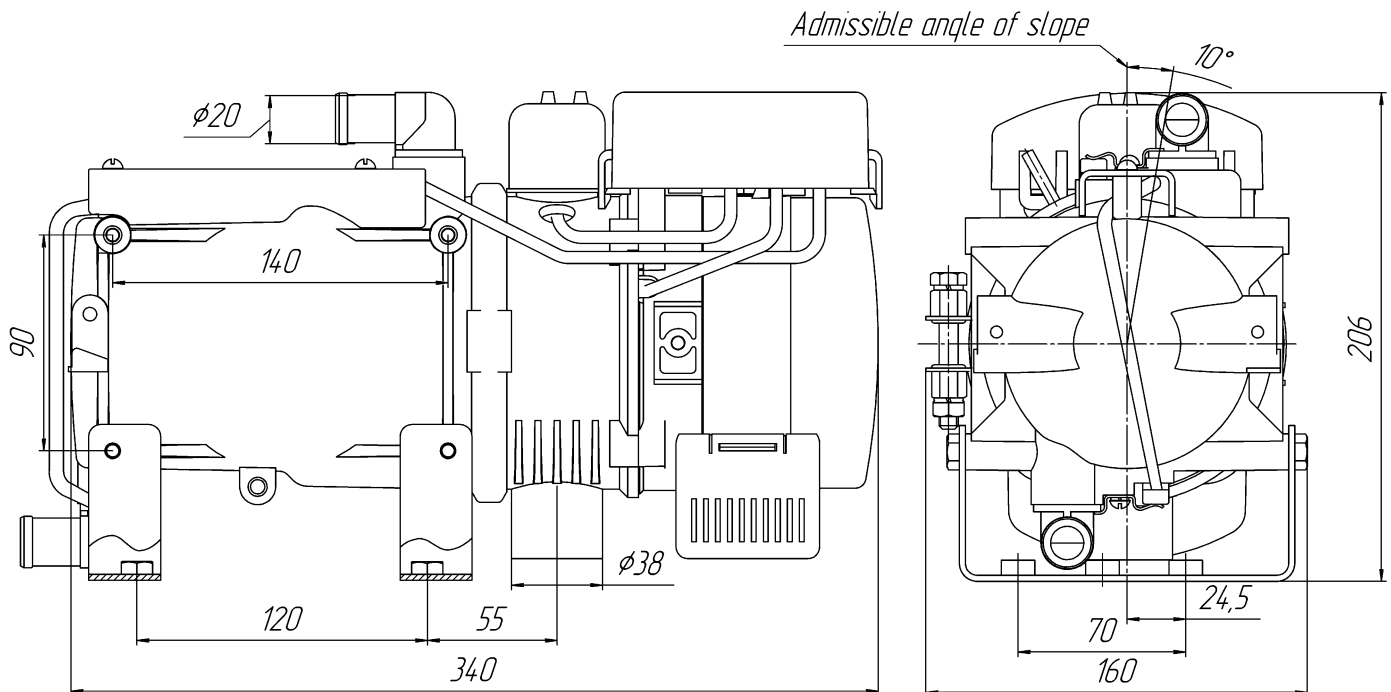

Figure 7- Allowable working positions of the pre-heater
Installation shall be performed taking into consideration permissible working positions of the pre-heater according to figure 7 and item 10.1. and 10.1.2.